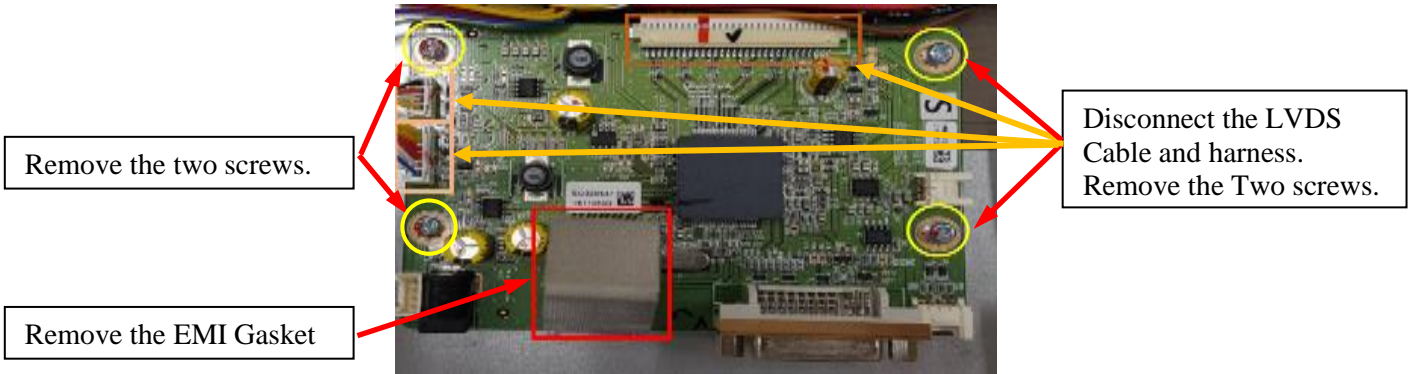

Figure 8. (69974805/KTL230DP-0x)
- 2) Locate the A/D board as shown in Figure 8, 9
- 5) Install the new A/D board with the four screws removed in Step 4 and reconnect the LVDS and converter harnesses. See Figure 8, 9.